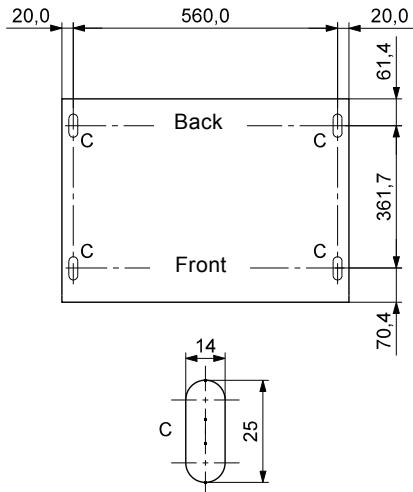

Fig. 8 Drilling template for pedestal [mm]
1. Mark the mounting holes on the floor. See fig. 8.